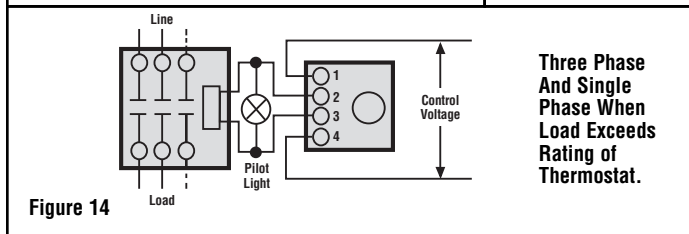

Figure 14
5. **Note:** If load amperage or voltage rating exceeds switch rating, a contactor must be used (see Figure 14). Contactors are available as an optional part.